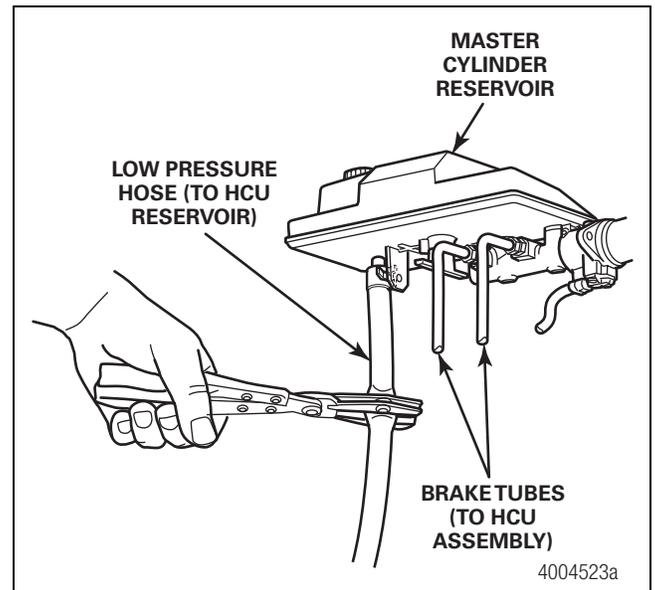

**Figure 2**
- C. Use a wrench to open the bleeder fitting screw. Figure 2.
- C. Use a wrench to open the bleeder fitting screw. Refer to Figure 2.